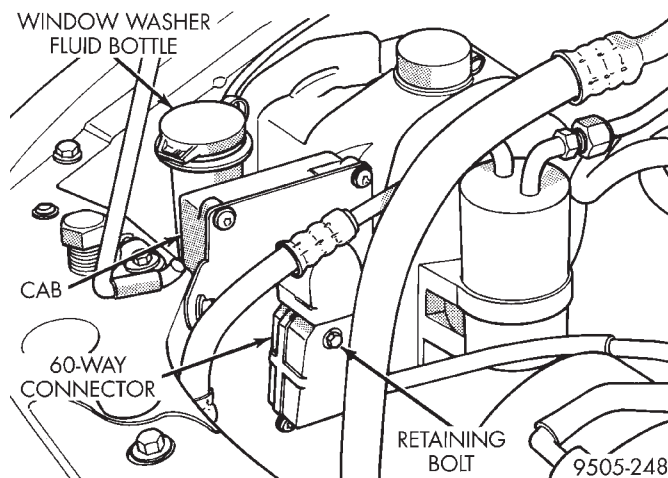
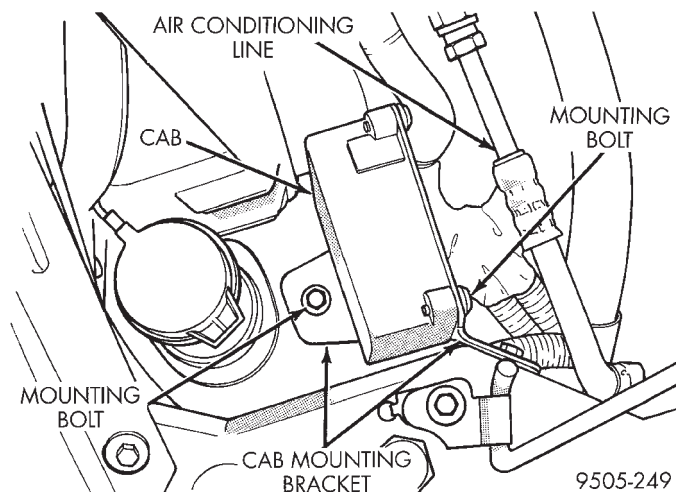

**Fig. 29 CAB 60-Way Wiring Harness Connector**
**Fig. 30 CAB Bracket To Engine Compartment Mounting**
(1) Turn vehicle ignition off.
(2) Disconnect the wiring harness 60 way connector (Fig. 29) from the Controller Antilock Brake Module (CAB). **VERIFY THAT THE VEHICLE IGNITION IS OFF BEFORE REMOVING THE 60 WAY CONNECTOR.**
(3) Remove the 2 bolts (Fig. 30) attaching the CAB mounting bracket to inner fender and front upper crossmember.
(1) Install the CAB and the mounting bracket assembled, on the right inner fender of the vehicle. (Fig. 30).
(2) Install the 2 bolts mounting the CAB bracket to the vehicle. Tighten both mounting bolts to a torque of 9 N·m (75 in. lbs.).
(3) Install 60-way wiring harness connector (Fig. 29) into the CAB 60-way connector by hand until seated as far as possible. Then use CAB connector retaining bolt (Fig. 29) to fully seat wiring harness connector into the CAB.
(4) Tighten the 60-way connector retaining bolt (Fig. 29) to a torque of 4 N·m (35 in. lbs.).